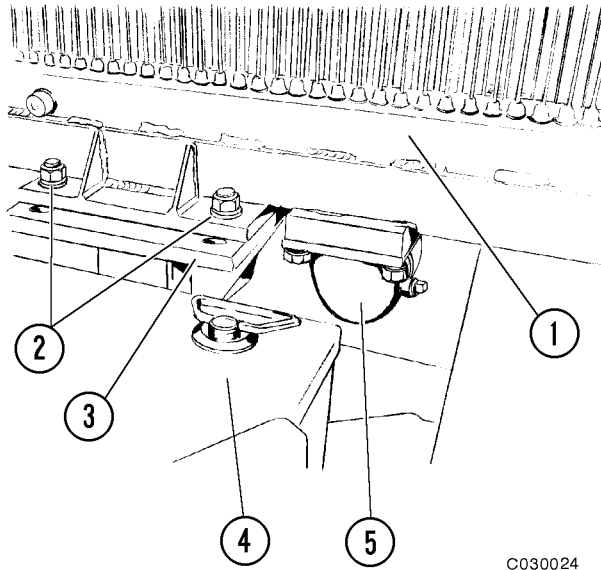

FIGURE 3-6. RADIATOR MOUNT
11. Remove nuts, lockwashers, flat washers and capscrews (2, Figure 3-6) from power module subframe (3) at the lower radiator mounts.
2. Insert the capscrews, washers, and nuts (2, Figure 3-6) at the lower radiator mounting brackets but do not tighten at this time.
4. Install upper support rods (4) and mounting hardware at radiator brackets and front upright brackets. Do not tighten at this time.
7. Tighten nuts on capscrews (2, Figure 3-6) at lower radiator mounting brackets to standard torque.